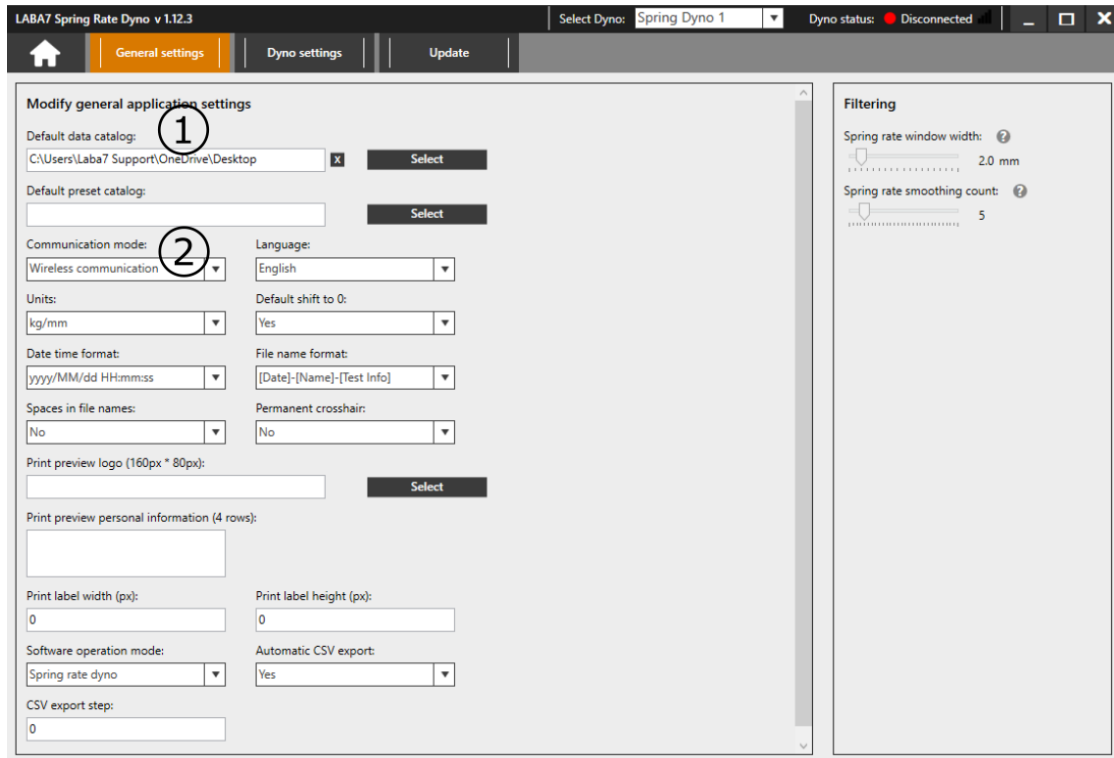

Figure 10
2. In the **General Settings** tab, select the **Default Data Catalog** by clicking on the **Select** button (Figure 10 – Step 1). This catalog will be used to store test data files.
3. Select Communication Mode by clicking on the drop-down menu (Figure 10 – Step 2):